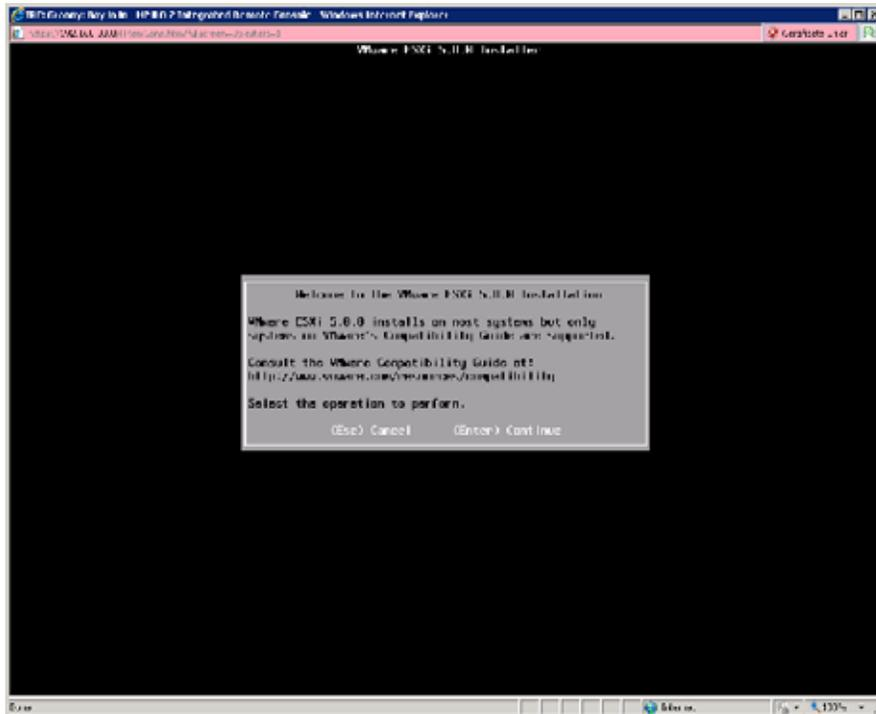

Figure 6 ESXi 5.0 Installer
- Step 4 Accept (*F11*) the license agreement (or decline by pressing *Esc*) as needed. To continue the installation procedure, accept the license agreement and start the ESXi 5.0 installer. Figure 6 on page 36 shows the ESXi 5.0 installer Welcome screen.